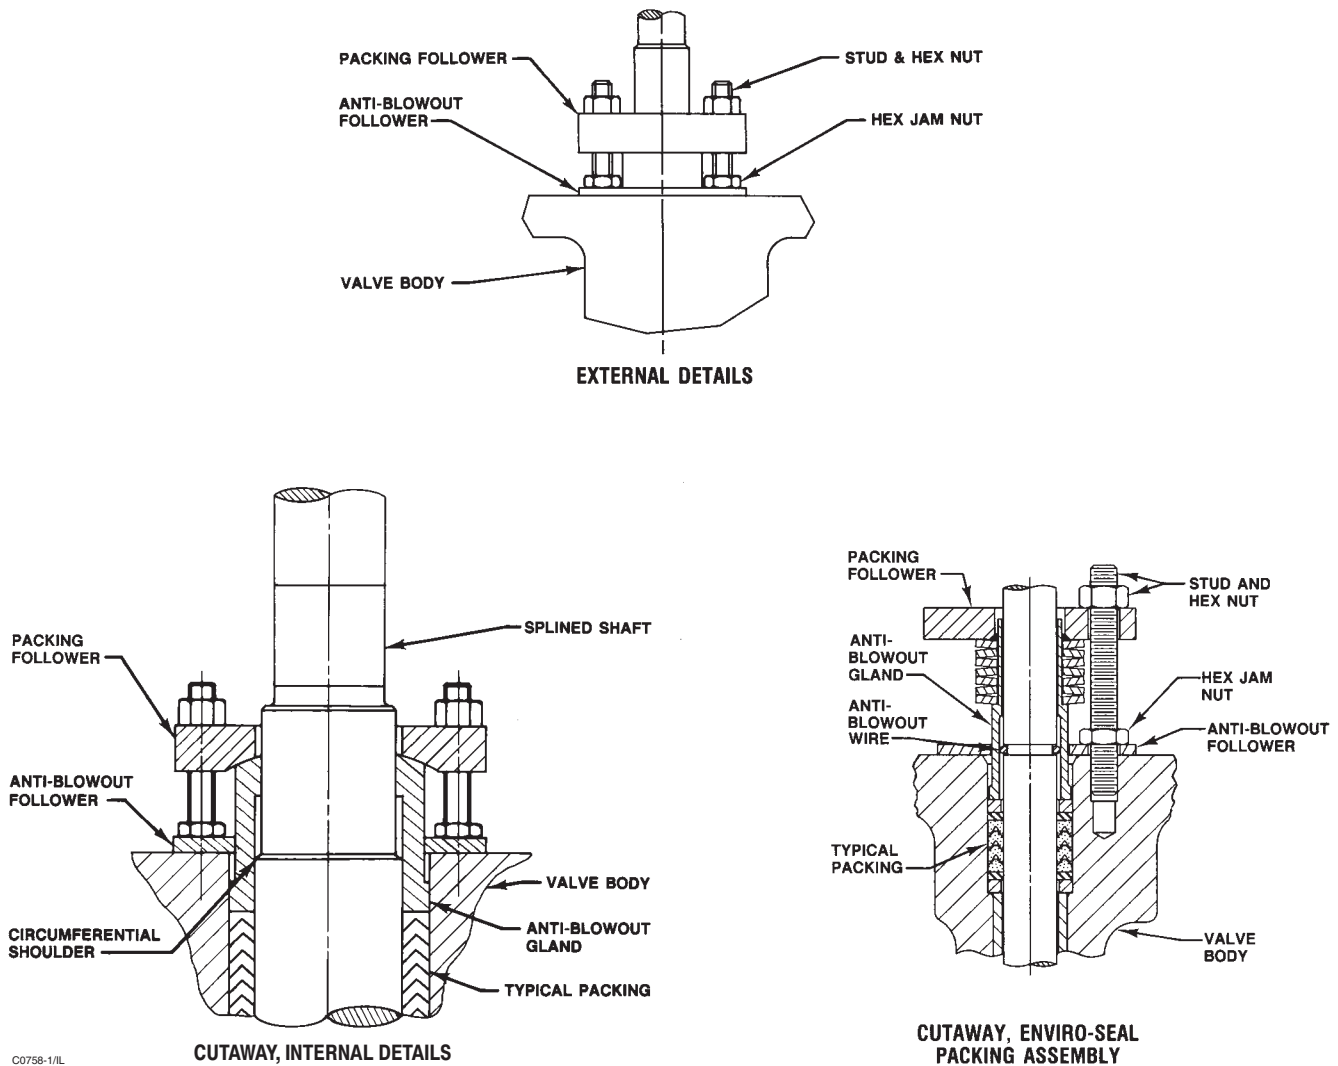

Figure 7. Anti-Blowout Design Details
1. Before loosening any parts on the valve, release the pressure from the pipeline. Then, remove the hex nuts (key 15) and lift off the packing follower (key 11).
2. Remove the hex jam nuts (key 17) and the anti-blowout flange (key 10). Remove the packing follower (key 12). Refer to figure 7 for details of the anti-blowout design parts.